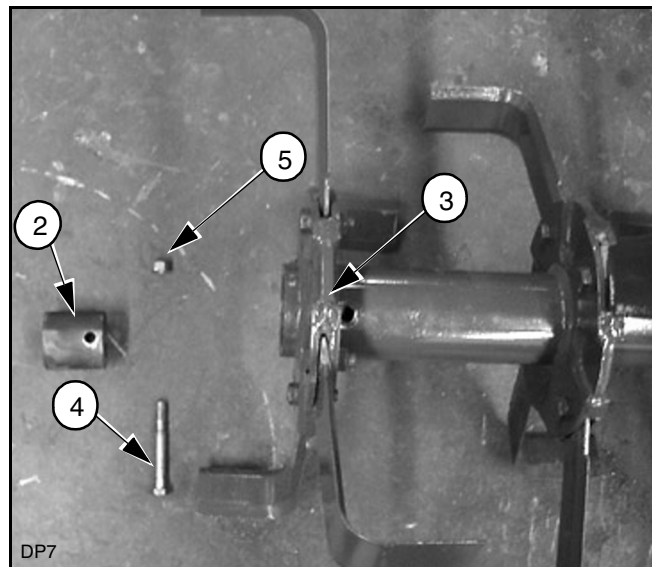

Figure 18.
Insert one coupler (2) into each end of the drum as shown in Figure 18. Make sure the end nearest the hole is to the inside. Line up the hole in the drum (3) with the hole in the coupler and install one 1/2" x 3-3/4" bolt (4) and one 1/2" - 20 nut (5).